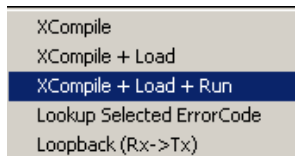

Figure 16: Right-click **XCompile + Load + Run**
- b. Right-click the terminal window and select **XCompile + Load + Run** (Figure 16).